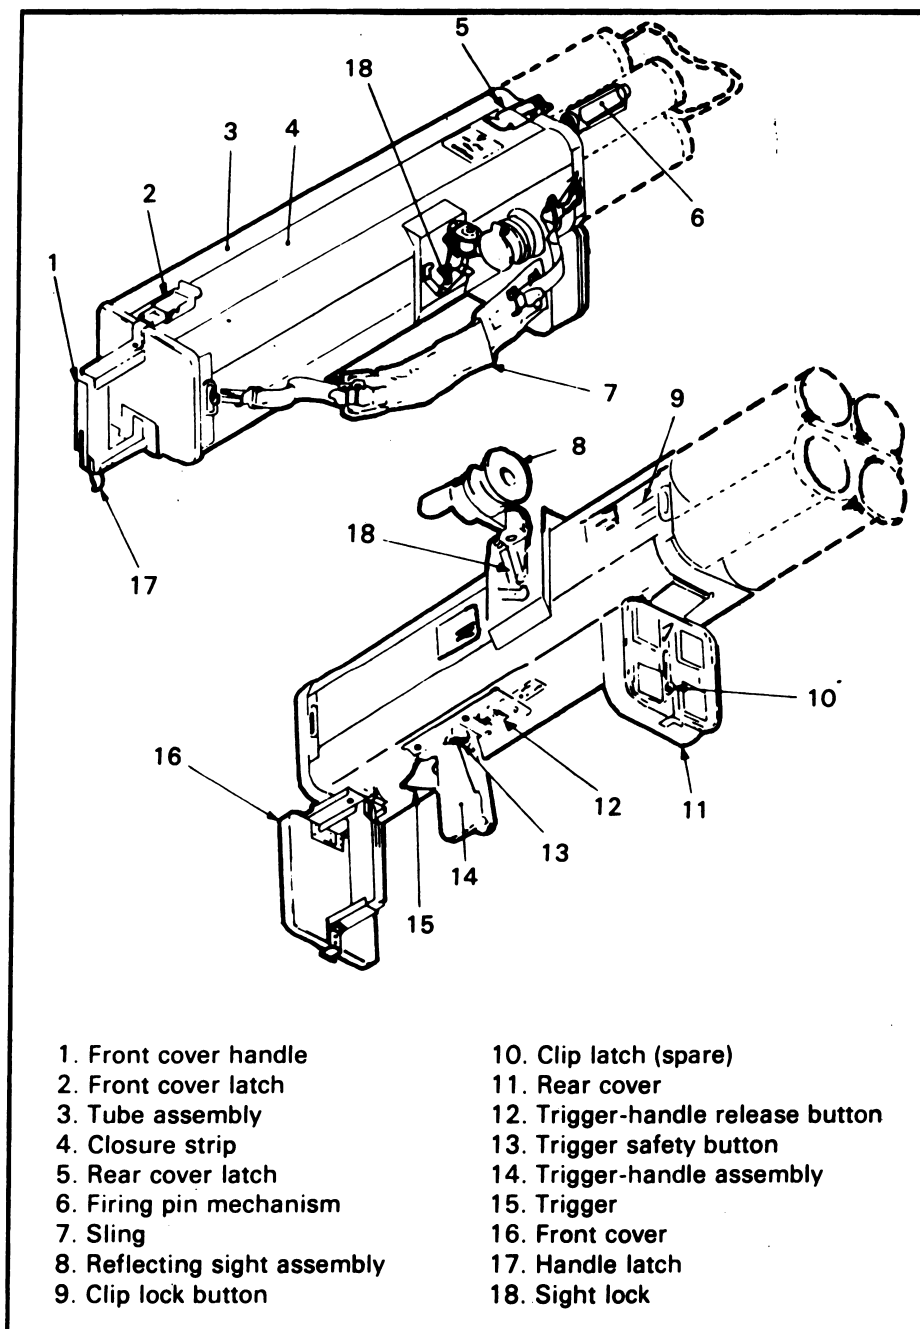
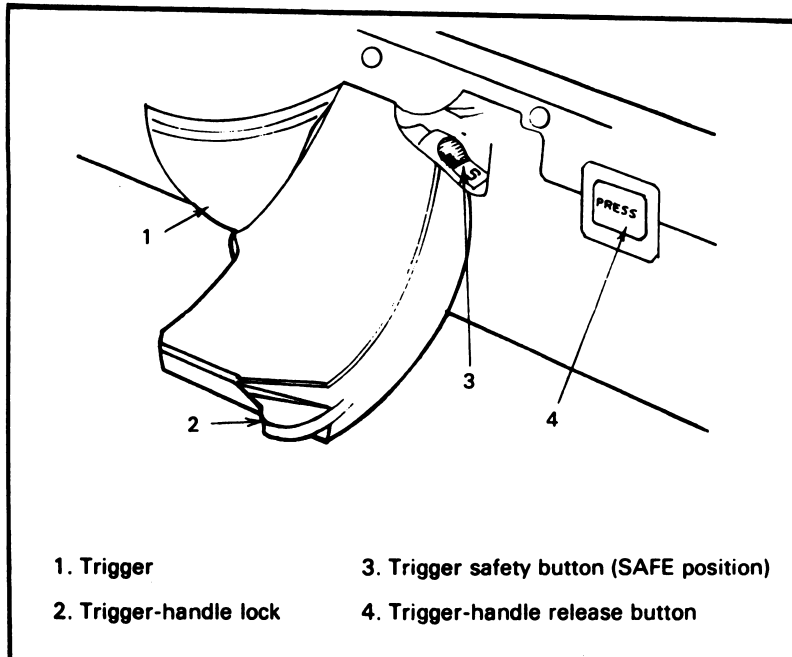

Figure 1
Figure 2.
1. Preoperational inspection of the M202A1 rocket launcher (fig. 1).
(1) Unfasten the latch on the rear dust cover and rotate the cover down. Insure the latch, hinge, and cover are serviceable.
(2) Check the front cover trigger-handle system as follows:
(a) Unfasten the latch on the front dust cover (fig. 1, item 2).
(b) Rotate the front cover handle outward until it stops (fig. 1, item 1).
(c) Rotate the front cover below the launcher tube. *Apply sufficient pressure to release the trigger-handle from its retracted position (fig. 1, item 14).
(3) To check the firing pin mechanism assembly (fig. 1; item 6) and trigger safety (fig. 2, item 3):